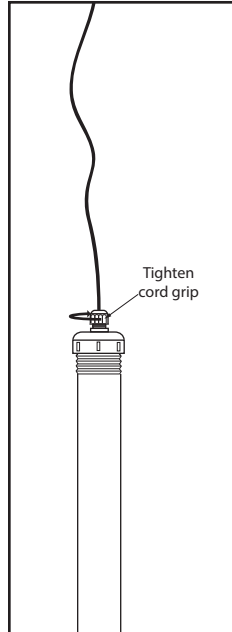

FIG. 13
- E) Tighten cord grip after applying some slack to cable. See FIG 13.